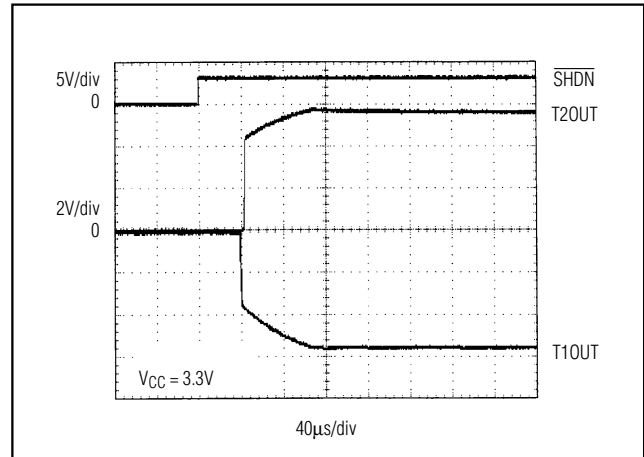

Figure 7. MAX3111E Transmitter Outputs Exiting Shutdown or Powering Up
Supply current falls to ICCSHDN(H) when in hardware shutdown mode ($\overline{\text{SHDN}} = \text{low}$). When shut down, the device's charge pumps are turned off, V_+ is pulled down to V_{CC} , V_- is pulled to ground, and the transmitter outputs are disabled (high impedance). The time required to exit shutdown is typically $100\mu\text{s}$, as shown in Figure 7. Connect $\overline{\text{SHDN}}$ to V_{CC} if the shutdown mode is not used. The UART software shutdown does not affect the RS-232 transceiver.
Figure 7 shows two RS-232 transmitter outputs exiting shutdown mode. As they become active, the two transmitter outputs are shown going to opposite RS-232 levels (one transmitter input is high; the other is low). Each transmitter is loaded with $3\text{k}\Omega$ in parallel with 2500pF. The transmitter outputs display no ringing or undesirable transients as they come out of shutdown. Note that the transmitters are enabled only when the magnitude of V_- exceeds approximately 3V.